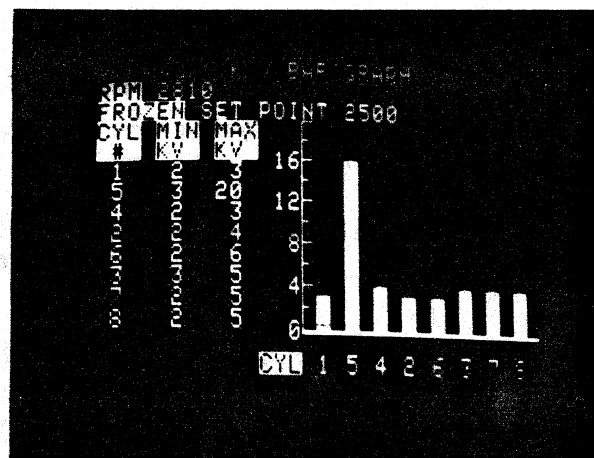

Fig. 12-5
4. Increase the engine rpm. The screen will freeze at or above the specified rpm (Fig. 12-5).